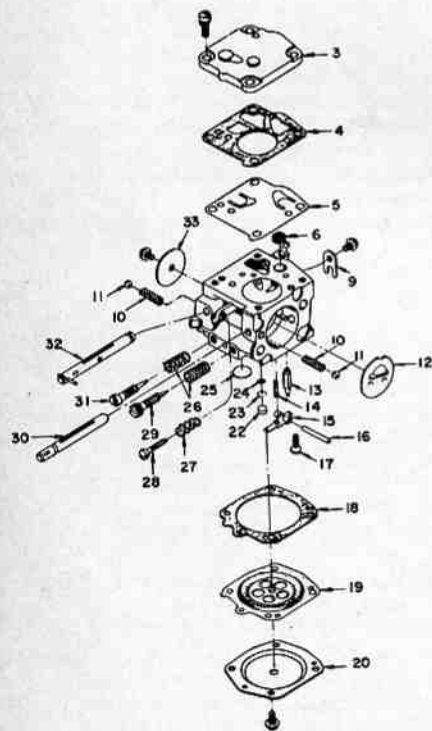

Fig. HL1—Exploded view of Tillotson HS-45A carburetor used on model 250 engine.
**CARBURETOR.** A Tillotson HS-45A carburetor is used on earlier engines; refer to exploded view of carburetor in Fig. HL1. Note: As engine speed is controlled by governor plate on rotary inlet valve, there are no governor linkage connections to throttle shaft. Throttle shaft has spring loaded detent to hold shaft in wide open position. Generator engine is not fitted with throttle
Fig. HL2—Exploded view of air intake and fuel system. Refer to Fig. HL1 for exploded view of carburetor (24). Control lever and shaft (2) is not used for throttle on generator engine and hole is covered by plug (3).
Later model carburetor is fitted with a main nozzle check ball which allows use of larger mesh inlet screen (6—Fig. HL1) and provides easier adjustment of fuel mixture. The check ball assembly will be in the same bore as the small body channel welch plug (22), retaining ring (23) and screen (24), and will replace these parts.